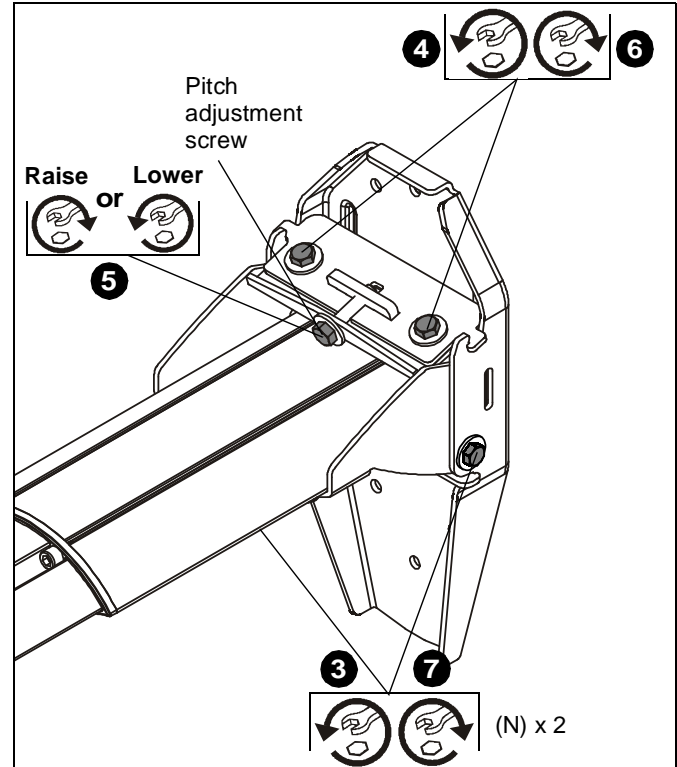

Figure 16
3. Loosen two 5/16-18 x 1/2" hex head screws (N) (one on each side of wall bracket). (See Figure 16)
4. Loosen two bolts (one on each side of pitch adjustment screw). (See Figure 16)
- Turn **counterclockwise** to lower mounting level. (See Figure 16)
6. Tighten two bolts (one bolt on either side of pitch adjustment screw). (See Figure 16)
7. Tighten two 5/16-18 x 1/2" screws (N) (one on each side of mounting bracket). (See Figure 16)